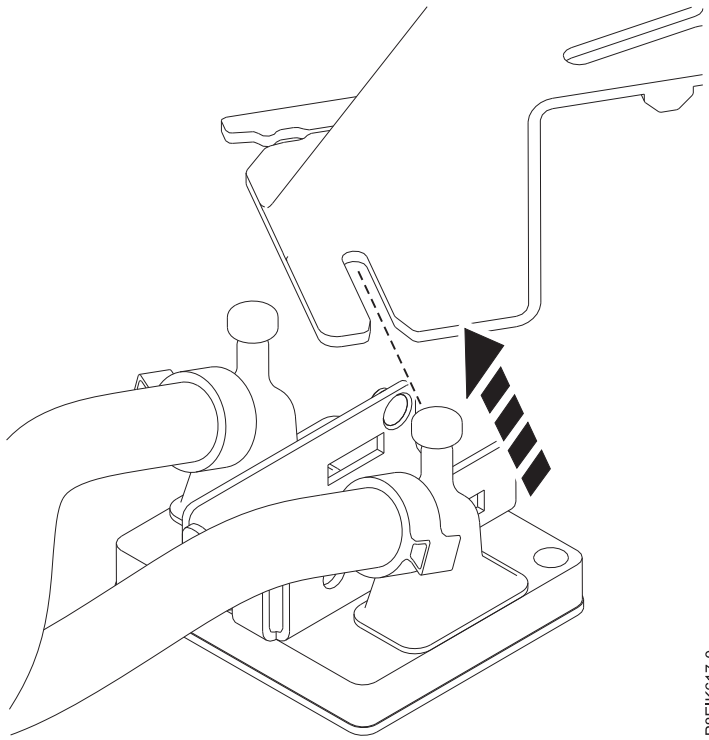

Figure 37. Removing the second cold plate pin from the holder
- c. Remove the second cold plate pin from the holder as shown in Figure 37.